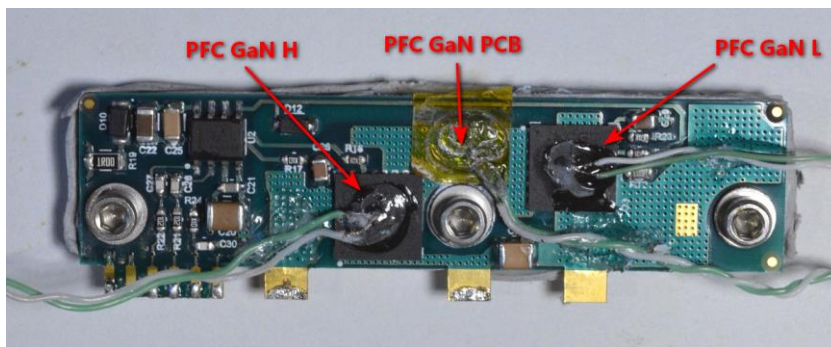

Figure 22 - TPPFC ICeGaN daughterboard. The red arrows show where the thermocouples were glued
- The TPPFC ICeGaN daughterboard has an aluminium plate and TIM on the bottom side, attached with 3 screws; temperatures were monitored only with thermocouples; see Figure 22.